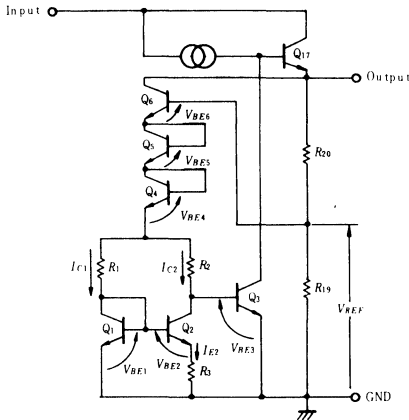

Fig.3 Circuit Generating Reference Voltage
For exemplaining the part generating the reference voltage, the equivalent circuit shall be shown in Fig. 3. As this figure shows clearly, the difference from the conventional method using zener diodes is that the reference voltage is generated by only the base-emitter forward characteristics of transistors. The reference voltage V_{REF} is;
In equation (6), the first four terms in the right to equal sign are V_{BE} and have negative temperature coefficient. On the other hand, the last term has positive temperature coefficient. Then, give value to R_1 , R_2 and R_3 so that $V_{REF} \approx 5V_{\delta} V_{REF} / \delta T = 0$. This reference voltage source which utilize the base-emitter forward voltage of transistors has less noise than the conventional ones using zener diodes. The output voltage is as shown in Fig. 3;